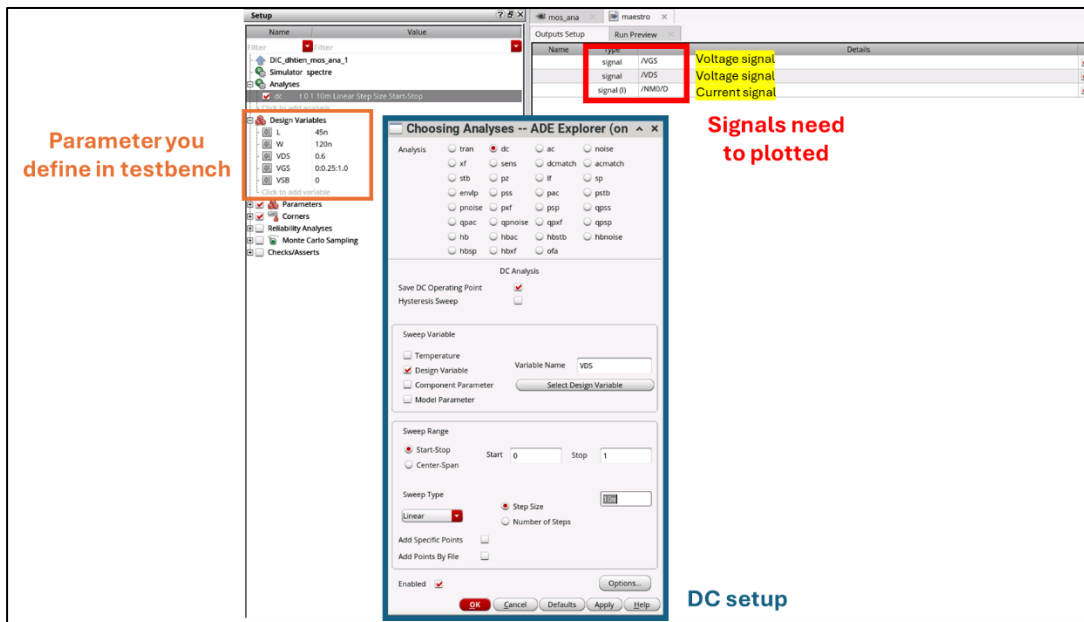

Figure 6 Setting parameters for characterizing I_D vs V_{DS} @ $V_{GS} = \{0, 0.25, 0.5, 0.75, 1.0\}$ V
- Students can refer to the setting in Figure 6 drawing I_D vs V_{GS} @ $V_{DS} = 1V$, $V_{SB} = \{0.1, 0.55, 0.9\} V$ and sweeping $V_{GS} = [0, 1.5] V$ step 10mV.